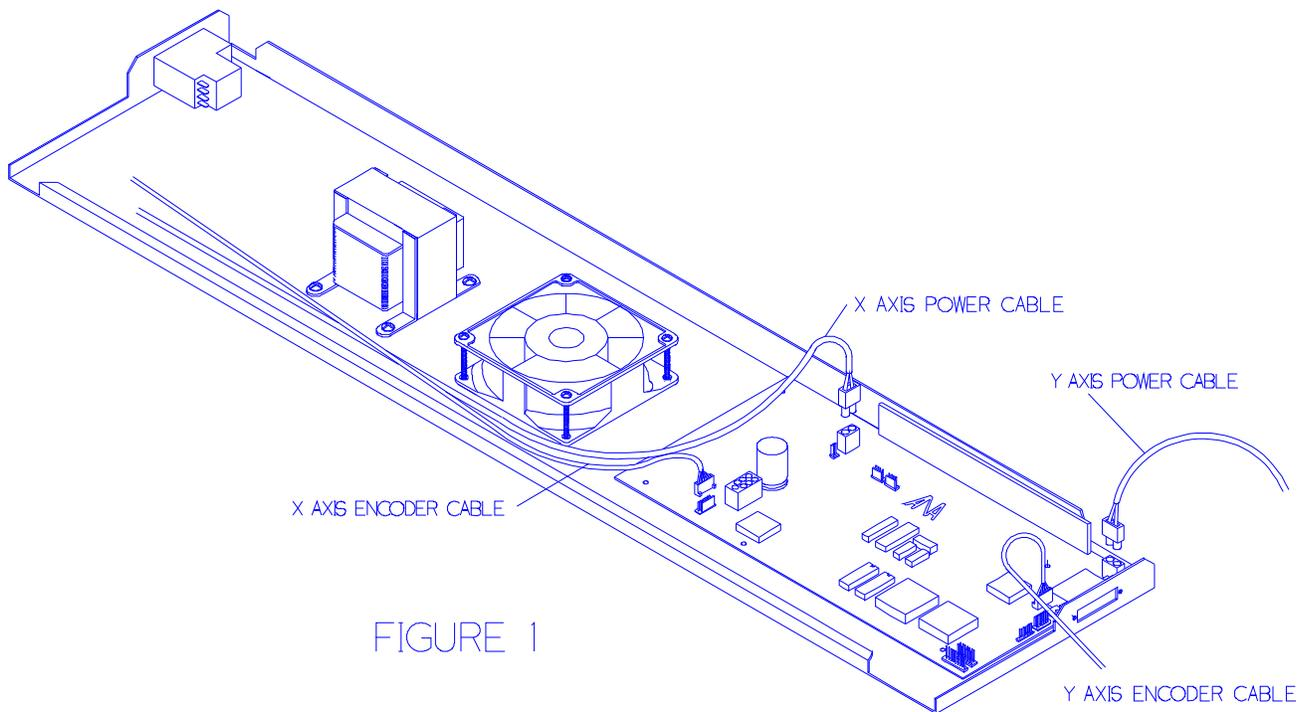

FIGURE 1
- Step 2:** Disconnect the y-axis encoder cable on the main PCB. (See figure 1).
- Step 16:** Attach the right side cover to the right side chassis using the (2) allen head screws (refer to the instructions for Removing the Left and Right Cover).
- Step 18:** Attach the right side cover to the bottom of the right side chassis using the (2) allen head screws and feet (refer to the instructions for Removing the Left and Right Cover).
- Step 19:** Plug in the y-axis encoder cable (see figure 1).